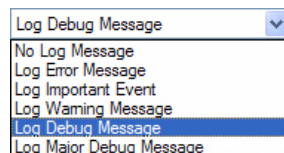

Figure 4-44: Selecting a log level for the Sensor
- 6) Click the **Log Level** down arrow and select an option from the drop-down list. See Figure 4-44.